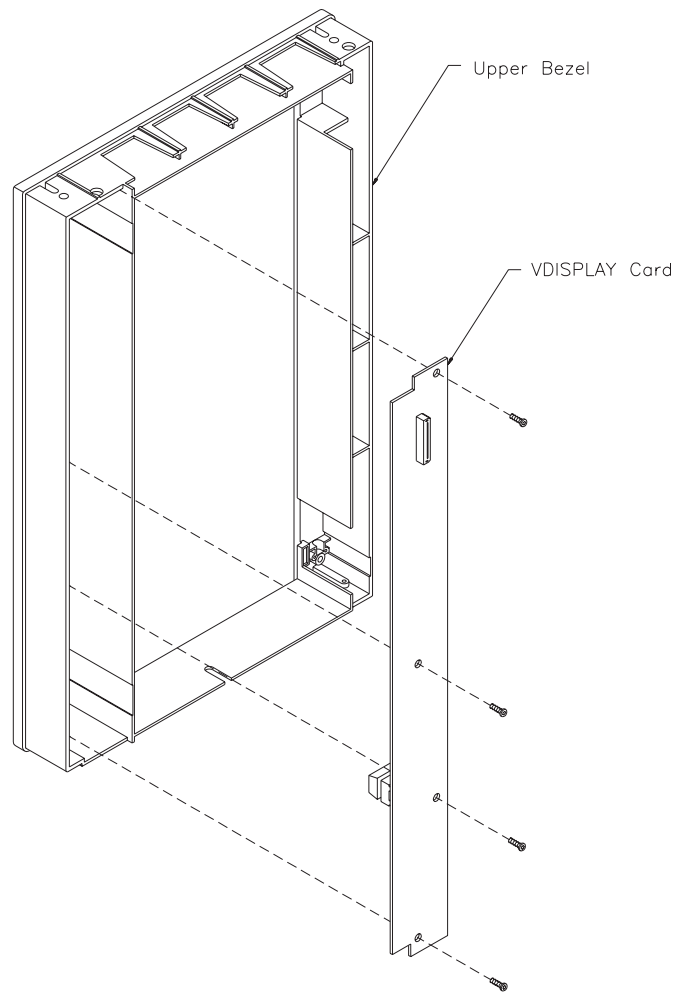

Figure 14-4 VDISPLAY card
4. Locate the VDISPLAY card on the inside of the upper bezel, as shown in Figure 14-4. Using a T-10 bit, remove the four screws that hold the VDISPLAY card in the bezel.